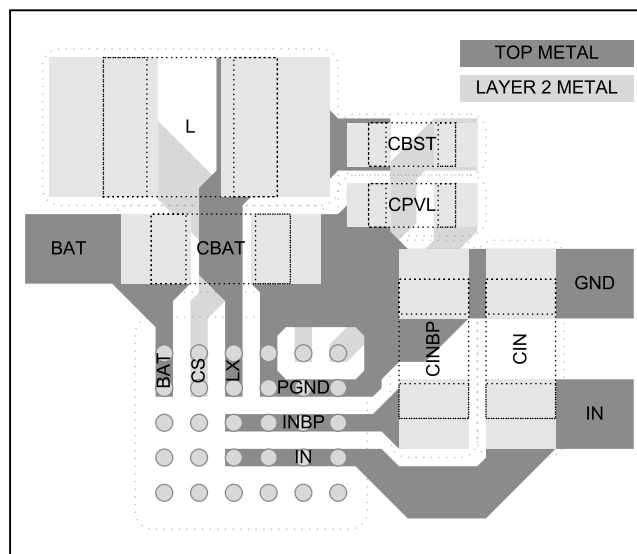
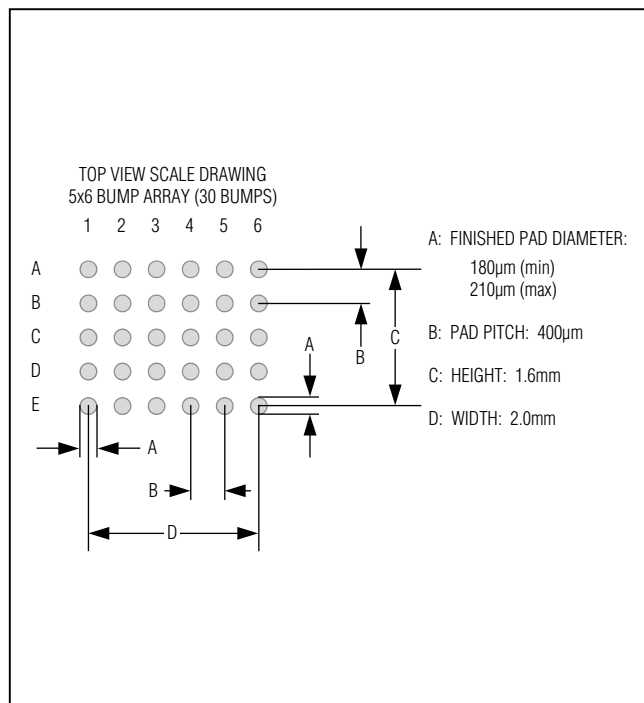
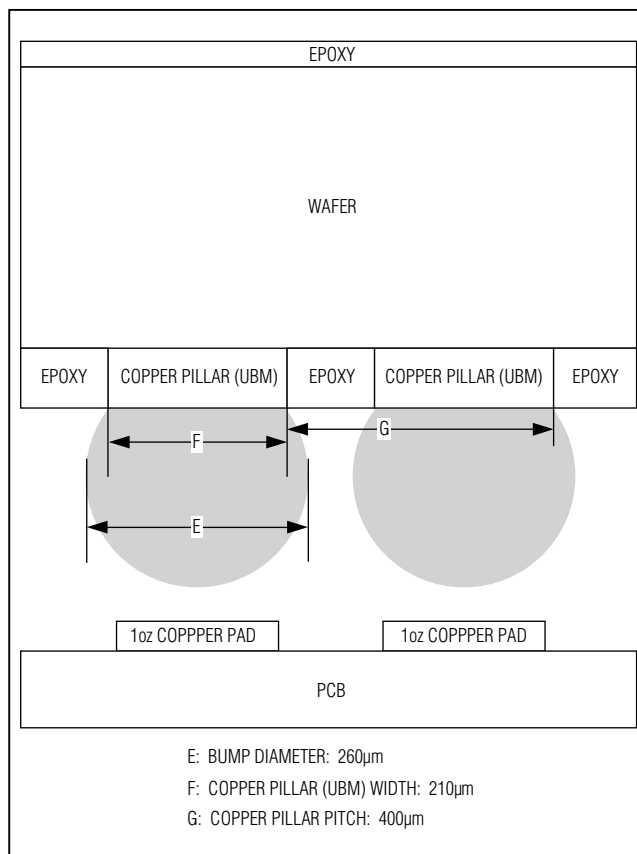

Figure 14. Power PCB Layout Example
Figure 15. Recommended Land Pattern
Figure 16. Bump Cross Section and Copper Pillar Detail
Figure 15 shows the recommended land pattern for the MAX8900_. Figure 16 shows the cross section of the MAX8900_'s bump with detail of the under-bump metal (UBM). The diameter of each pad in the land pattern is close to the diameter of the UBM. This land pattern to UBM relationship is important to get the proper reflow of each solder bump.
Careful printed circuit layout is important for minimizing ground bounce and noise. Figure 14 is an example layout of the critical power components for the MAX8900_. The arrangement of the components that are not shown in Figure 14 is less critical. Refer to the MAX8900 Evaluation Kit for a complete PCB layout example. Use the following list of guidelines in addition to Application Note 1891: *Wafer-Level Packaging (WLP) and Its Applications* (www.maximintegrated.com/ucsp) to layout the MAX8900_ PCB.
- 5) In Figure 14, the CS node is connected to the second layer of metal with vias. Use low-impedance vias that are capable of handling 1.5A of current. Also, keep the routing inductor current path on layer 2 just underneath the inductor current path on layer 1 to minimize impedance.
- 6) Both C_{BST} and C_{PVL} deliver current pulses for the MAX8900_'s MOSFET drivers. These components should be placed as shown in Figure 14 to minimize parasitic impedance.
In Figure 14, many of the top layer bump pads are connected together in top metal. When connecting bumps together with top layer metal, the solder mask must define the pads from 180 μ m to 210 μ m as shown in Figure 15. When using solder mask defined pads, please double check the solder mask openings on the PCB Gerber files before ordering boards as some PCB layout tools have configuration settings that automatically oversize solder mask openings. Also, explain in the PCB fabrication notes that the solder mask is not to be modified. Occasionally, optimization tools are used at the PCB fabrication house that modify solder masks. Layouts that do not use solder mask defined pads are possible. When using these layouts, adhere to the recommendations A through G above.